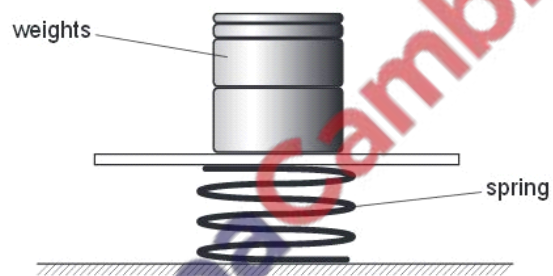

Fig. 2.1
- 2 A spring is placed on a flat surface and different weights are placed on it, as shown in Fig. 2.1.